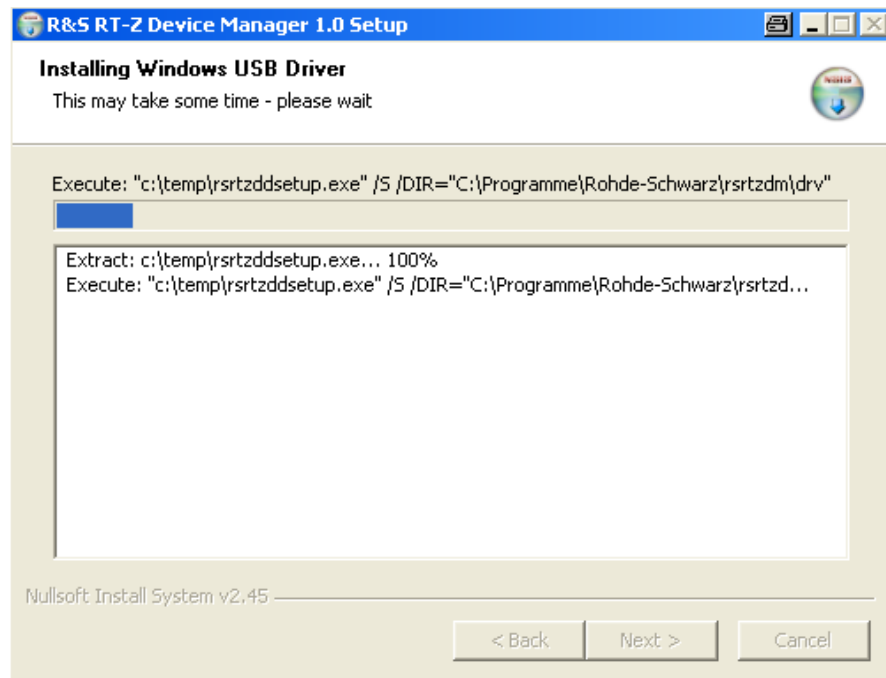

Figure 3-6: Installation progress
3. After you have set the installation location, the program will install all required program routines as well as all required drivers for the probe. The installation status can be seen on the progress bar (see Figure 3-6).